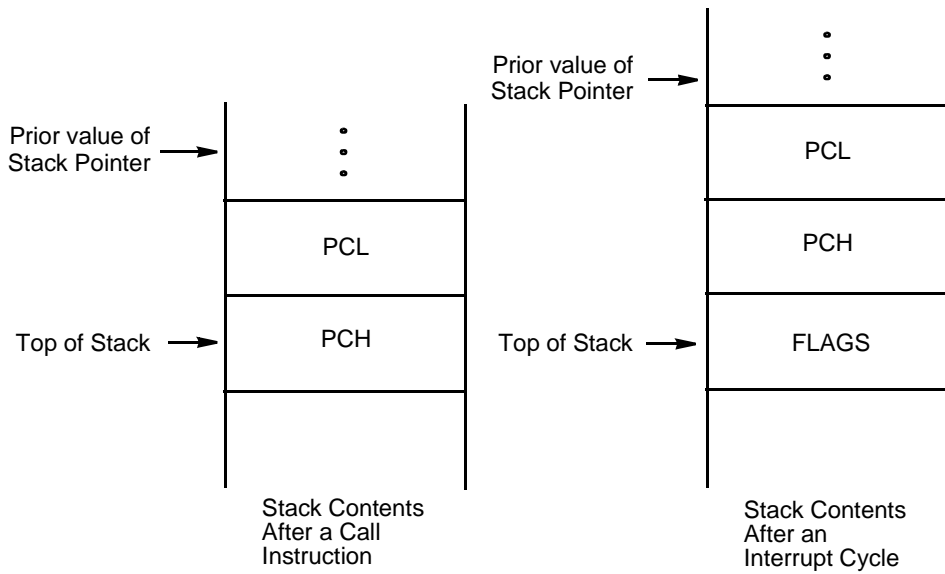

**Figure 1-7. Stack Pointer**
The stack always resides in the general purpose registers of the on-chip register file RAM. The stack pointer register (SP) contains an address into the standard register file that is the address of the operand that is currently on the top of the stack. The register 0FEH is the 8-bit stack pointer (SP), that is used for all stack operations (see Figure 1-7).